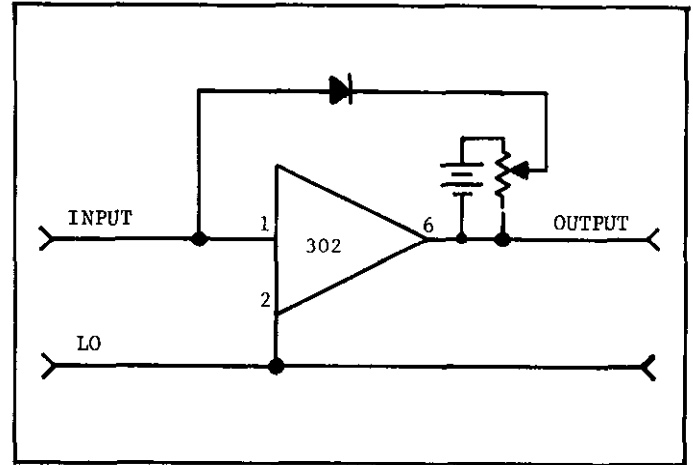
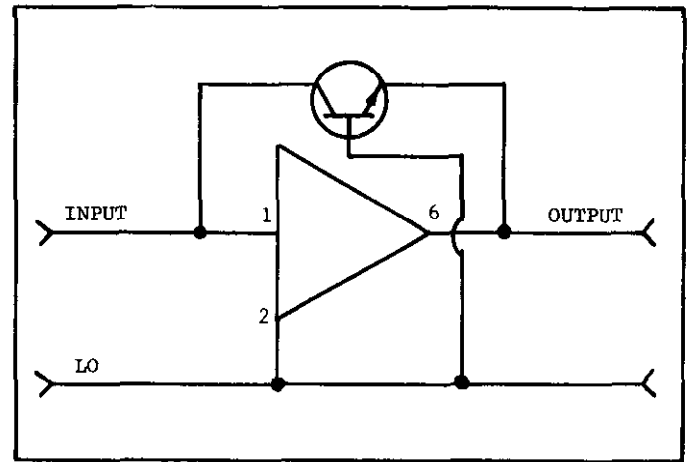

FIGURE 7. Logarithmic Current Amplifier
FIGURE 8. Logarithmic Current Amplifier
d. Logarithmic Current Amplifier. A logarithmic device such as a silicon diode or transistor junction can be connected between the Input (Pin 1) and Output (Pin 6) to provide up to 9 decades of logarithmic response. The particular device used determines the log performance. The leakage current of the device should be at least two magnitudes less than the current to be measured. The addition of series devices and/or fractional feedback can be used to establish the magnitude of the scale factor "A". See Figure 7. Silicon NPN transistors are also useful as log elements where better response speed is needed. Using the basic circuit of Figure 8, positive currents can be amplified by using an NPN transistor in the feedback loop. Negative currents can be amplified by using a PNP transistor in the feedback loop. The base of the transistor is connected to ground. Connect the collector to the INPUT and the emitter to the OUTPUT.
1. To zero the output use a variable voltage between the log element in the feedback loop and the output. This variable voltage can be achieved by use of a biasing network that consists of a potentiometer connected as in Figure 7. Mount this network in series between the log element and the output. Adjusting the potentiometer will provide the voltage needed to zero the output. The resistance added by this biasing network should be small compared to the resistance of the diode network at maximum input current.